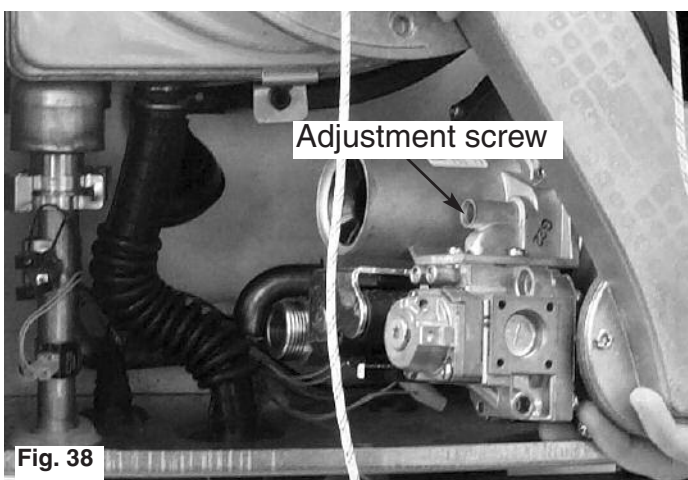

Fig. 38
5. Adjust the screw on the gas valve (Fig. 38) to set the CO₂ to 9.2% +/- 0.2% (NG) or 10% +/- 0.2% (LPG);
6. Press the setting button  once to set the combustion control rate mode to minimum, and, if necessary, adjust the screw on the gas valve to set the CO₂ to 9.2% +/- 0.2% (NG) or 9.2% +/- 0.2% (LPG);
7. Press the setting button  again to set the combustion rate control mode to maximum and if necessary adjust the screw on the gas valve to set the CO₂ to 9.2% +/- 0.2% (NG) or 10% +/- 0.2% (LPG);